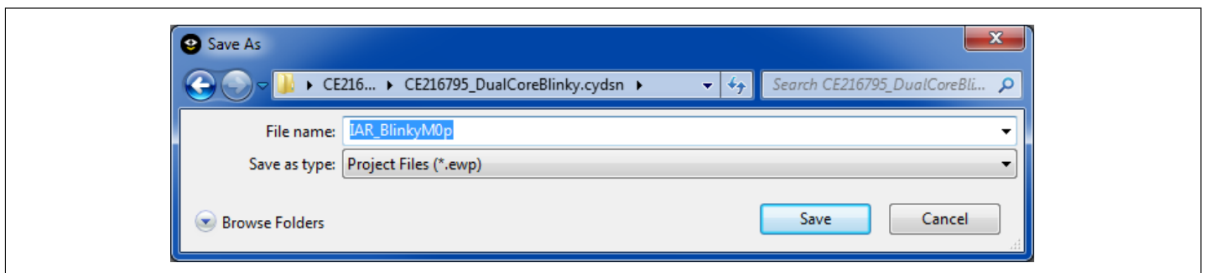

Figure 32 Create an IAR Embedded Workbench project for CM0+
Recommended: in the Save As dialog (Figure 32), name the project based on the original PSoC™ Creator project name and the target CPU. For example, for the CE216795 dual-core blinky project, create a µVision project IAR_BlinkyM0p for the CM0+ CPU
Repeat the previous steps and create a second project for CM4. **Recommended:** name the project based on the original PSoC™ Creator project name and the target CPU. For example, for the CE216795 dual-core blinky project, create IAR-EW project IAR_BlinkyM4; see Figure 32. Configure the project similar to the CM0+ project, with the following differences:
- The CM4 project must be in the same folder as the CM0+ project; in this case, your PSoC™ Creator <project>.cydsn folder. See Figure 32